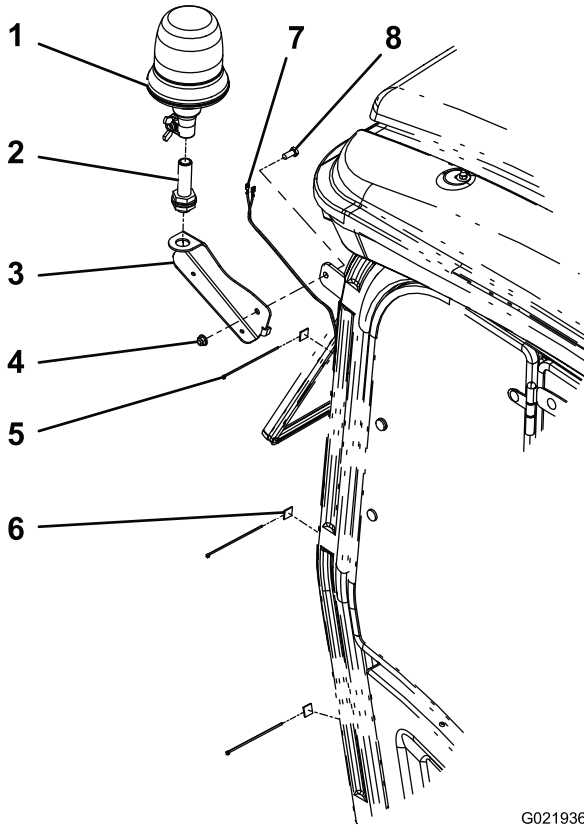

Figure 6
- Secure the beacon mount (cab) to the tab on the right corner of the cab frame with a 3/8 x 7/8 inch screw and a 3/8 inch flange nut (Figure 6).
- Mount the beacon socket to the beacon mount with the jam nut included (Figure 6).
- Plug the beacon onto the socket and tighten the wing nut (Figure 6).
- Route the wire harness up the corner of the cab post and plug it into the beacon socket (Figure 6).
- Affix the (3) mounting pads to the cab post and secure the wire harness to the pads with cable ties (Figure 6).